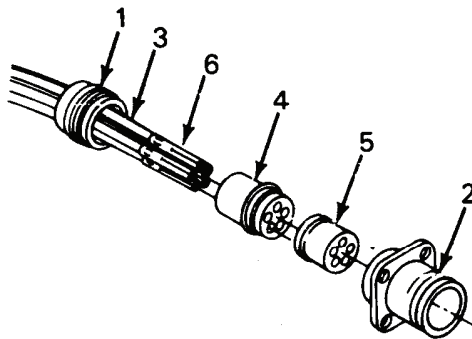

Figure 1. Connector Layout
- 6. Install connector head (Figure 1, Item 4) on connector body (Figure 1, Item 5).
- 7. Install hex-socket screws (Figure 1, Item 3).
- 8. Slide glands (Figure 2, Items 2 & 3), wire mesh, (Figure 2, Item 4), and cable gland nut (Figure 1, Item 1) into connector body (Figure 1, Item 5) and tighten nut.
1. Remove nut (Figure 1, Item 1).